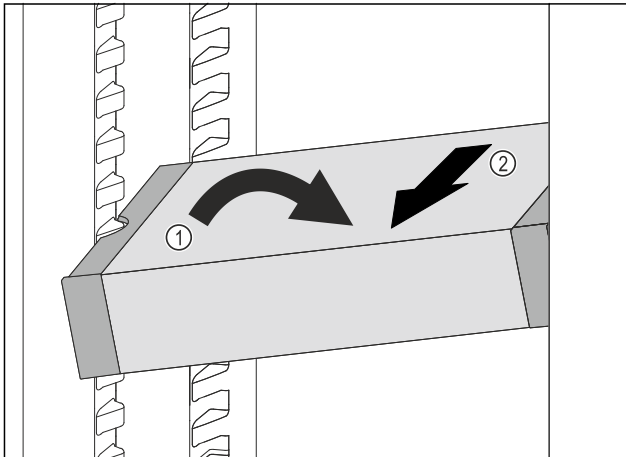

Fig. 84
- ▶ Set VarioSafe in refrigerator compartment at an angle. Fig. 84 (1)
- ▶ Take VarioSafe out to the front. Fig. 84 (2)